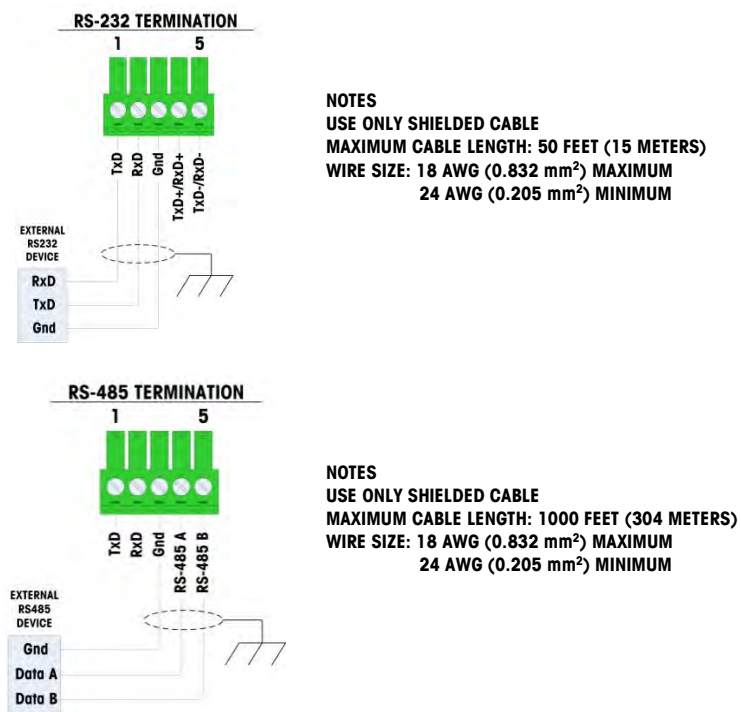

Figure 2-66: Sample COM2 Connections
A six position switch block (Figure 2-66) is located on the main PCB. These switches function as shown in Table 2-6.
4. Ensure that the appropriate approval region has been selected in setup under **Scale > Type > Approval**, and that the Metrology security switch SW1-1 is in its ON position (refer to Figure 2-66 and Table 2-6).